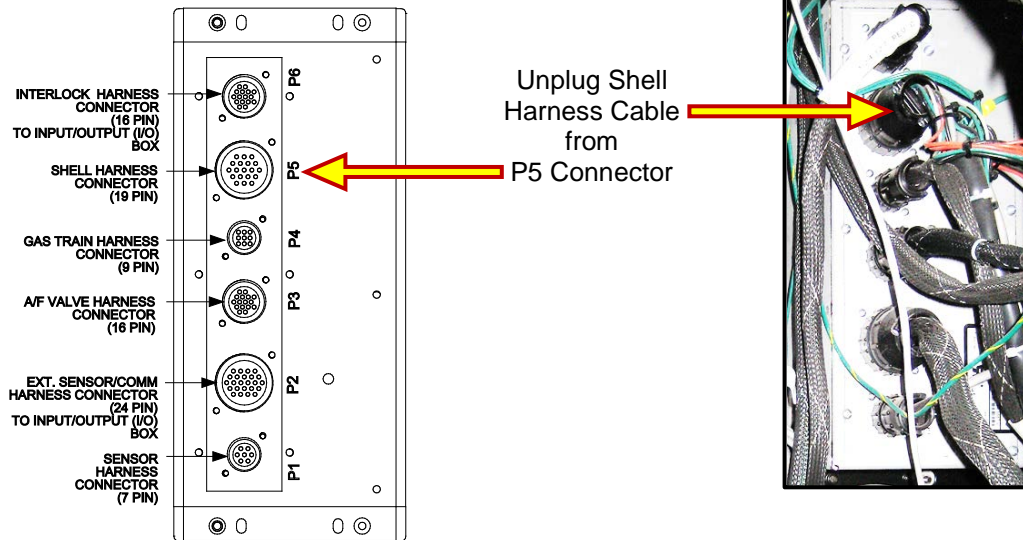

Figure 7-13: Removing Shell Harness Cable from P5 Conn. on C-More Rear Panel
- Remove the Shell Harness Cable (male) connector from the P-5 (female) connector on the rear panel of the C-More controller (see Figure 7-13).